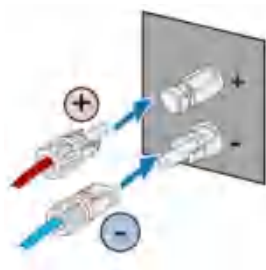

Fig 5.4 Connect PV string to inverter
- (1) Connect PV string to the inverter and ensure tightly-fastened, as shown in Fig 5.4;
- (2) When removing the DC connector from the inverter, insert the head of the straight screwdriver into the raised hole in the middle of the connector, and force the movable end of the connector to exit.